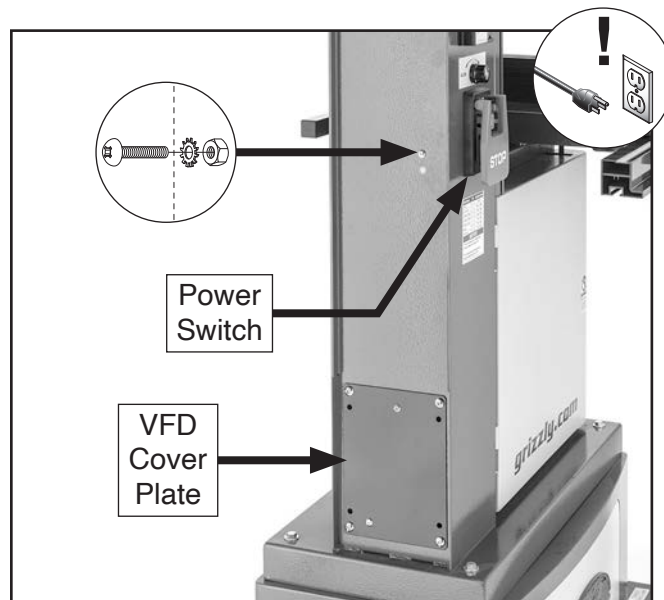
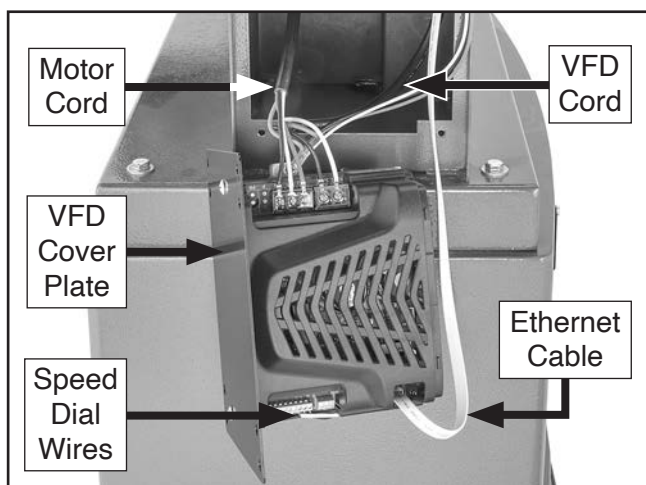

Figure 2. Location of G0621X components.
Figure 4. Location of VFD wiring connections.
2. Remove power switch (see **Figure 2**) and save fasteners for later use, then disconnect power cord and motor cord wires from power switch terminals and set power switch aside for now.
3. Loosen and remove Phillips head screw, external tooth washer, and hex nut securing chassis ground wires, as shown in **Figure 2**.
5. Remove VFD cover plate (see **Figure 2**) and save fasteners for later use, then disconnect ethernet cable, motor cord wires, VFD cord wires, and speed dial wires from VFD (see **Figure 4**).